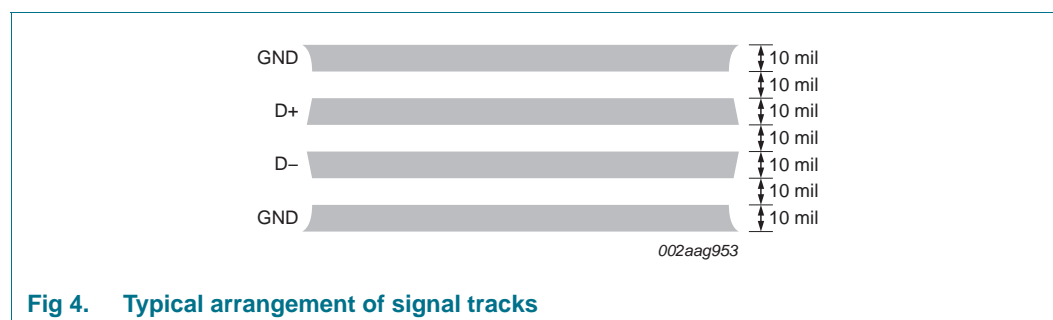

Fig 4. Typical arrangement of signal tracks
3. Use wide tracks to minimize inductance and reduce noise pickup. 10 mil track minimum width and spacing is recommended (see Figure 4).